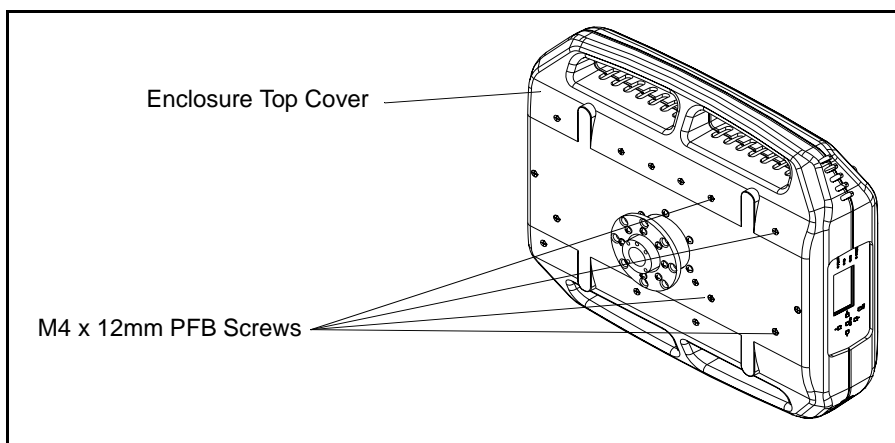

Figure 2-56: VLX Wash Power Supply #1 Assembly
- Step 3. Using 3/16" hex wrench and as indicated in Figure 2-56, remove four 1/4-20 x 2" CAP SOC screws and two 1/4-20 x 1.5" CAP SOC screws and remove base cover.
- Step 4. At upper enclosure top cover, as shown in Figure 2-56, remove four M4 x 12mm PFB screws. It may be necessary to turn enclosure to access screws.